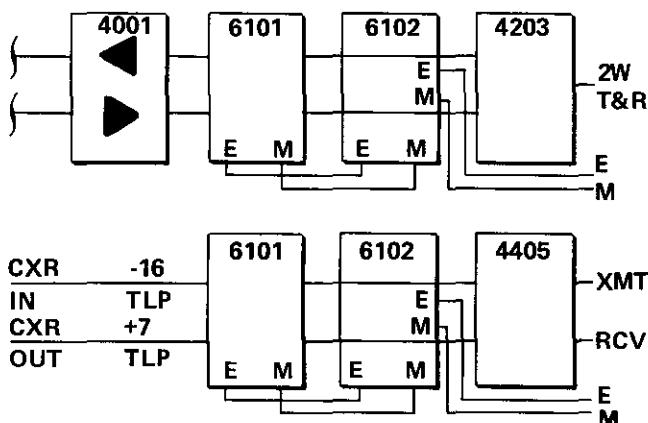

figure 2. Typical 6102 application with 6101 SF Transceiver signaling
2.05 The 6102 is often used in a Tellabs 260 or 261 Signaling and Terminating System, where it functions in conjunction with either a 6101 SF Transceiver or a 6001 or 6002 DX Signaling module. (Within the 260 and 261 universal wiring schemes, SF and DX signaling may be used interchangeably. The 6102 is interchangeable with other Tellabs Signaling Converter modules [e.g., the 6103, 6104, 6105, and 6106] in universally wired 260 or 261 Systems.) The 260 and 261 Systems commonly include a Line Amplifier on the facility side and a Term Set or Repeat Coil on the equipment side. When carrier is interfaced on the facility side, a Line Amp is not required. Typical applications of the 6102 are shown in figure 2.